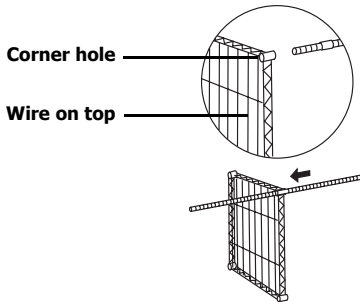

Fig. 2
4. Holding the shelf on its side, slide the pole through one of the corner holes [Fig. 2].